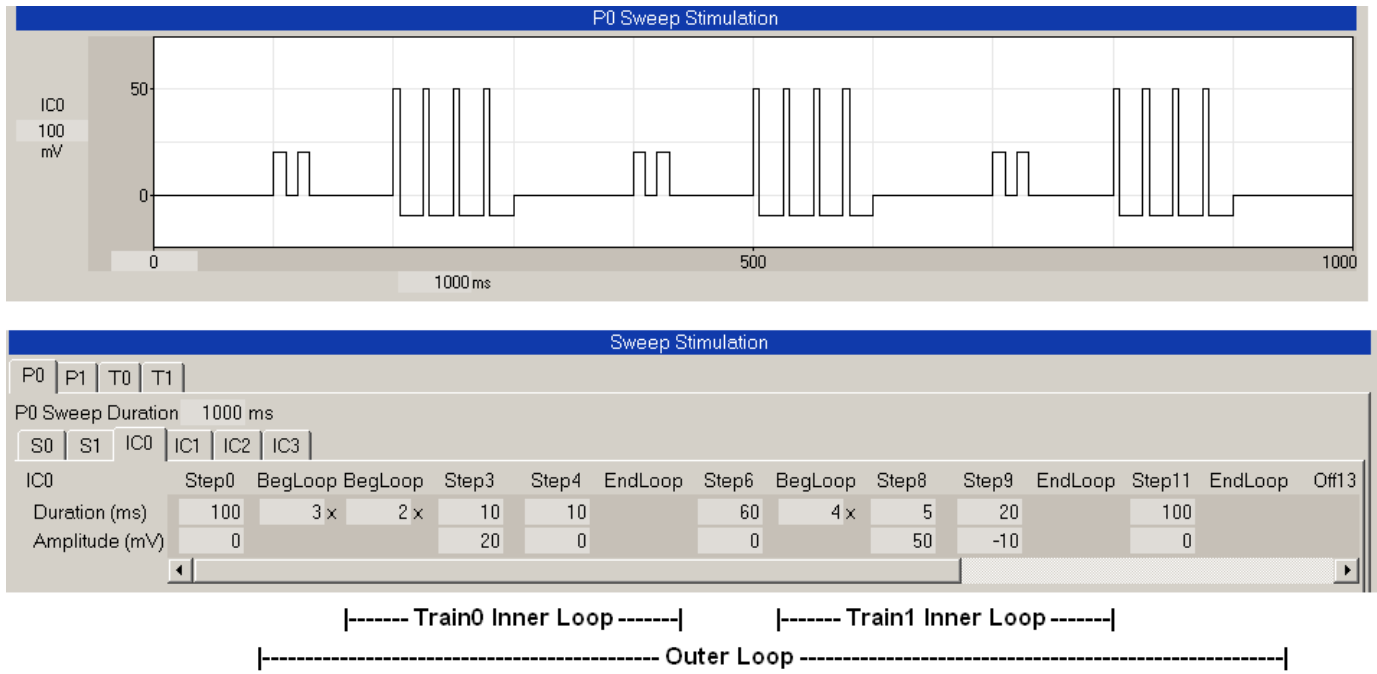

Fig. 4.9.2.6. Sequential Multiple Trains using multiple Train0 and Train1 Inner Loops within an Outer Loop.
Fig. 4.9.2.5. Sequential Single Trains using BegLoop/EndLoop constructs for Train0 Loop and Train1 Loop. Also note that ramps are generated within the Train1 Loop.
**Increasing the extracellular stimulation outputs from 2 to 8.** In WinLTP 2.32 and earlier versions, there were only 2 extracellular stimulation outputs, S0 and S1. In WinLTP 3.00 this has been increased to 8 stimulation outputs, S0 to S7 (the bottom of Fig. 4.9.2.7 shows six of eight stimulation outputs).
Fig. 4.9.2.7. Figure showing the 6 AD channels (top, AD0 to AD5) and 6 of 8 extracellular stimulation outputs (bottom, S0 to S5). In this figure, S0 was connected to AD0, S1 connected to AD1 and so forth. The pulse complexity of S0/AD0 - 1 pulse, S1/AD1 - paired pulses, S2/AD2 - single train, and S3/AD3 multiple trains / theta burst stimulation were in WinLTP 2.32 and earlier. The pulse complexity of S4/AD4 - primed burst stimulation, and S5/AD5 - sequential bursts of 2, 3 and 4 pulses followed by 3 primed burst stimulations are only present in WinLTP 3.00.
**More complex the extracellular stimulation.** Fig 4.9.2.8.shows the Sweep Stimulation protocol that generates the S5/AD5 output of sequential bursts of 2, 3 and 4 pulses followed by 3 primed burst stimulations. The increased complexity of stimulation was achieved by 1) adding sequential epoch stimulation (for example the first three bursts, 2) adding Begin/End loops (for example for Reptitive Primed Burst Stimulation), and 3) adding Loops within Loops for even more complex stimulation (not shown).